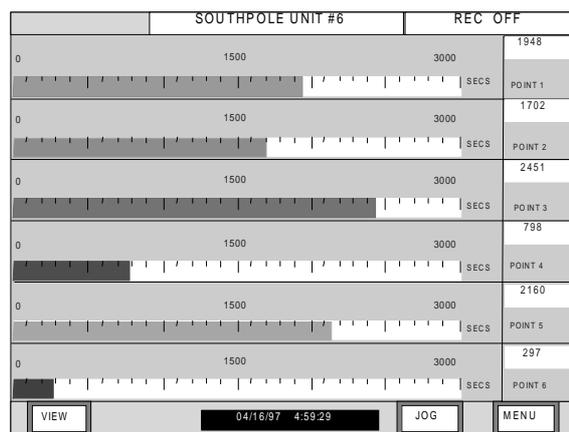

Figure 3-10 Horizontal Bargraph View
3. Horizontal Bargraphs View - In this view, horizontal bargraphs are emulated. Point data is displayed as a colored bar with the scale associated with the point. If an input is not programmed, UNPROG will appear at the right of a blank bargraph. This view is depicted in Figure 3-10. This view shows each of the inputs, up to six, and the upper/lower value of the output range. The digital value for each point is also shown at the top of each bargraph.